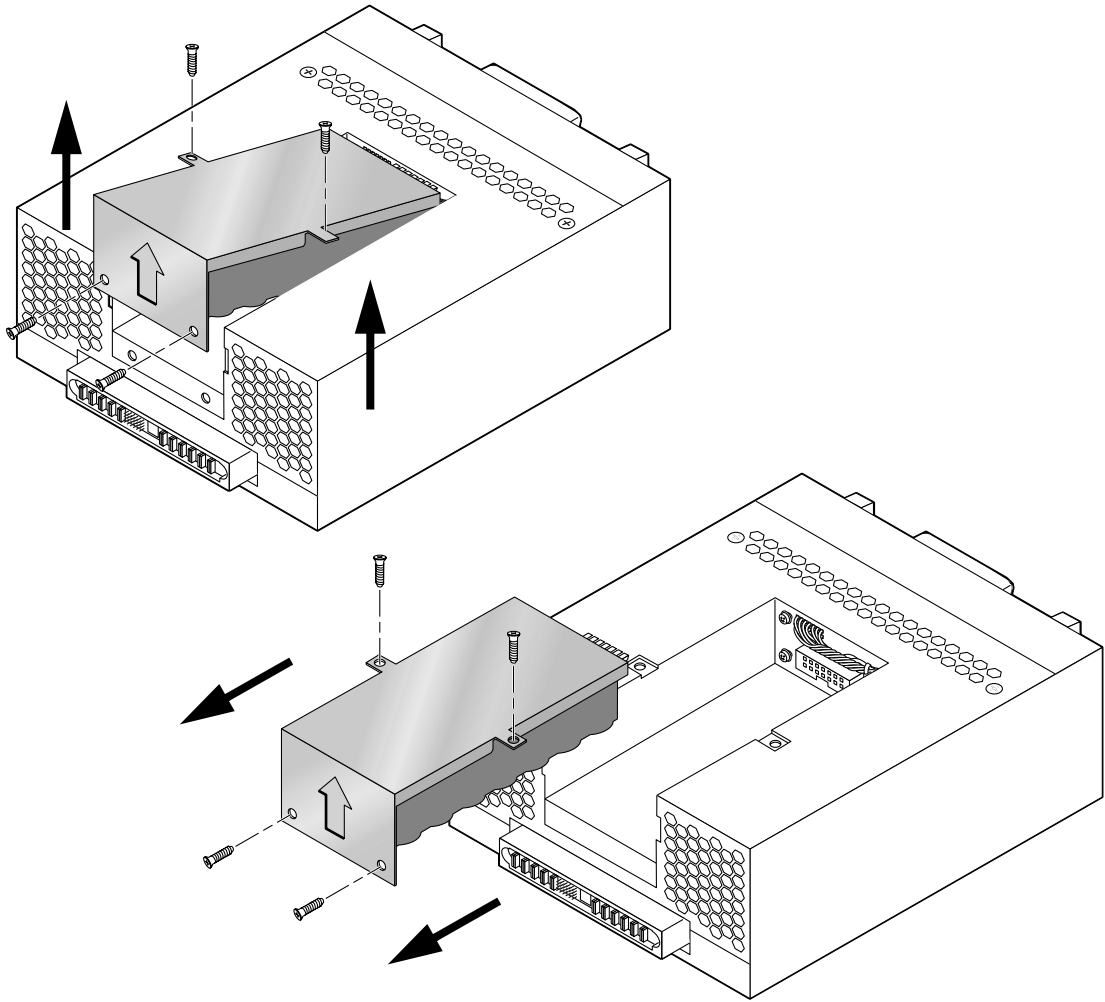

FIGURE 6-11 Removing the UPS Battery
- 3. Remove the four Phillips screws that secure the UPS battery to the power and cooling unit (FIGURE 6-11).**